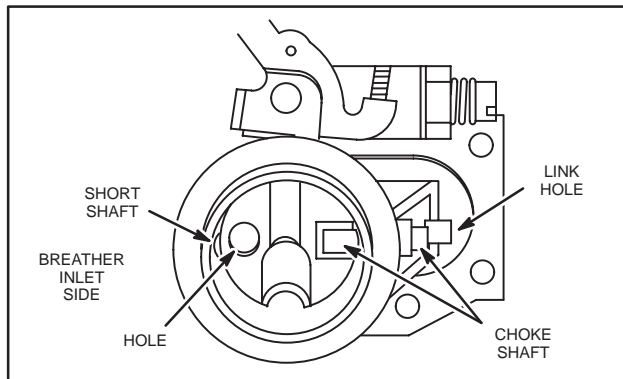

Fig. 158 – ASSEMBLING AUTOMATIC CHOKE
2. Insert choke shaft into choke shaft bore with automatic choke link hole positioned as shown in Fig. 158.